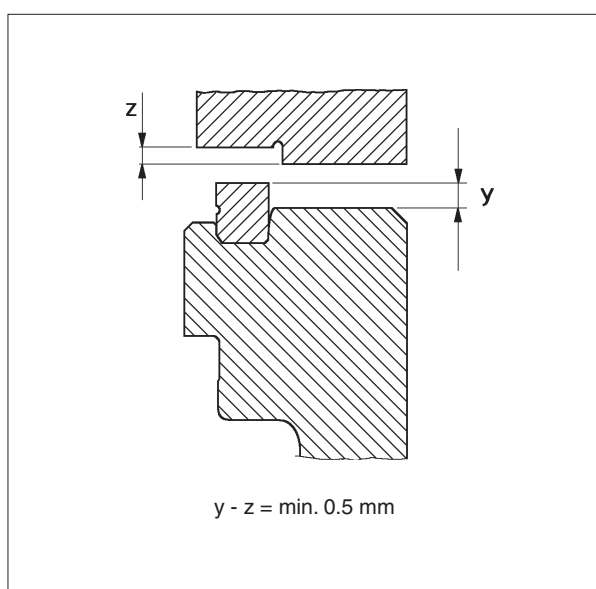

Fig 4.
4) When having ground the contact faces, it must be observed that the gap between cylinder head and liner is no less than 0.5 mm, i.e. the difference between measurements y and z must not be less than 0.5 mm, see Fig 4.